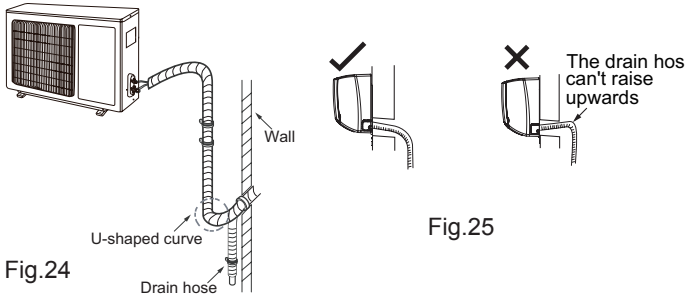

Fig.24
- (1) The pipes should be placed along the wall, bent reasonably and hidden possibly. Min. semidiameter of bending the pipe is 10cm.
- (2) If the outdoor unit is higher than the wall hole, you must set a U-shaped curve in the pipe before pipe goes into the room, in order to prevent rain from getting into the room. (As show in Fig. 24)